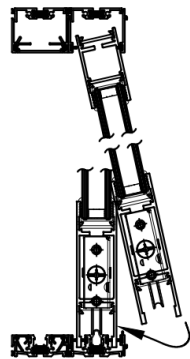

Figure 10b
15. If you have a staggered track door, you will need to temporarily remove the head and sill track end caps (Part #17, #18) to avoid clearance issues. For info on removing and installing staggered track end caps, consult Appendix A. Install the interior panel into the second closest track and slide it into the pocket halfway. Once in position, move panel to the interior track. Then install remaining panels so that the interlocks overlap correctly, per figures 10b and 10c. Use a putty knife if necessary to lift rollers over the roller track. Once in place, remove the string from under the rollers.